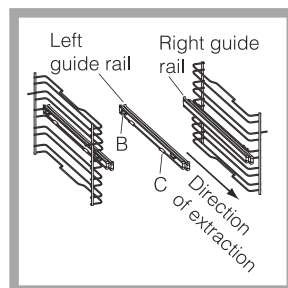

Figure 1.
- › Choose which shelf to use with the telescopic runner. Paying attention to the direction in which the runner is to be extracted, position joint 'B' and joint 'C' on the frame [see Fig.1].